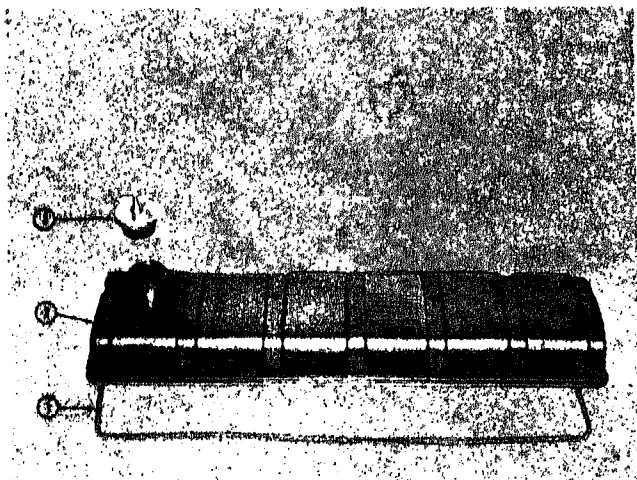

Fig. 3-1-5. Cylinder head cover assembly
1. Remove lubricating oil filler cap (3, Fig. 3-1-5.).